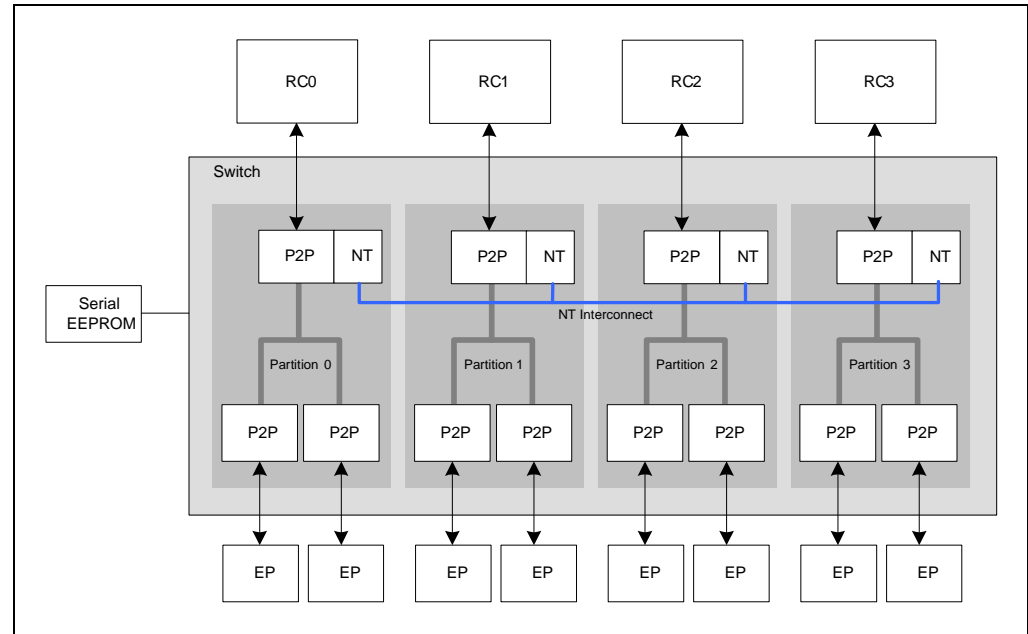

Figure 26.7 Multiprocessor System Interconnection Using the PES32NT24xG2
- The switch is configured as shown in Figure 26.7.
The serial EEPROM preconfigures the switch partitions as shown in Figure 26.7. The serial EEPROM preconfigures the BARSETUP0 register in each NT function to map BARs 0/1 to the NT function's config space. The fields in the BARSETUP0 register are configured as follows: